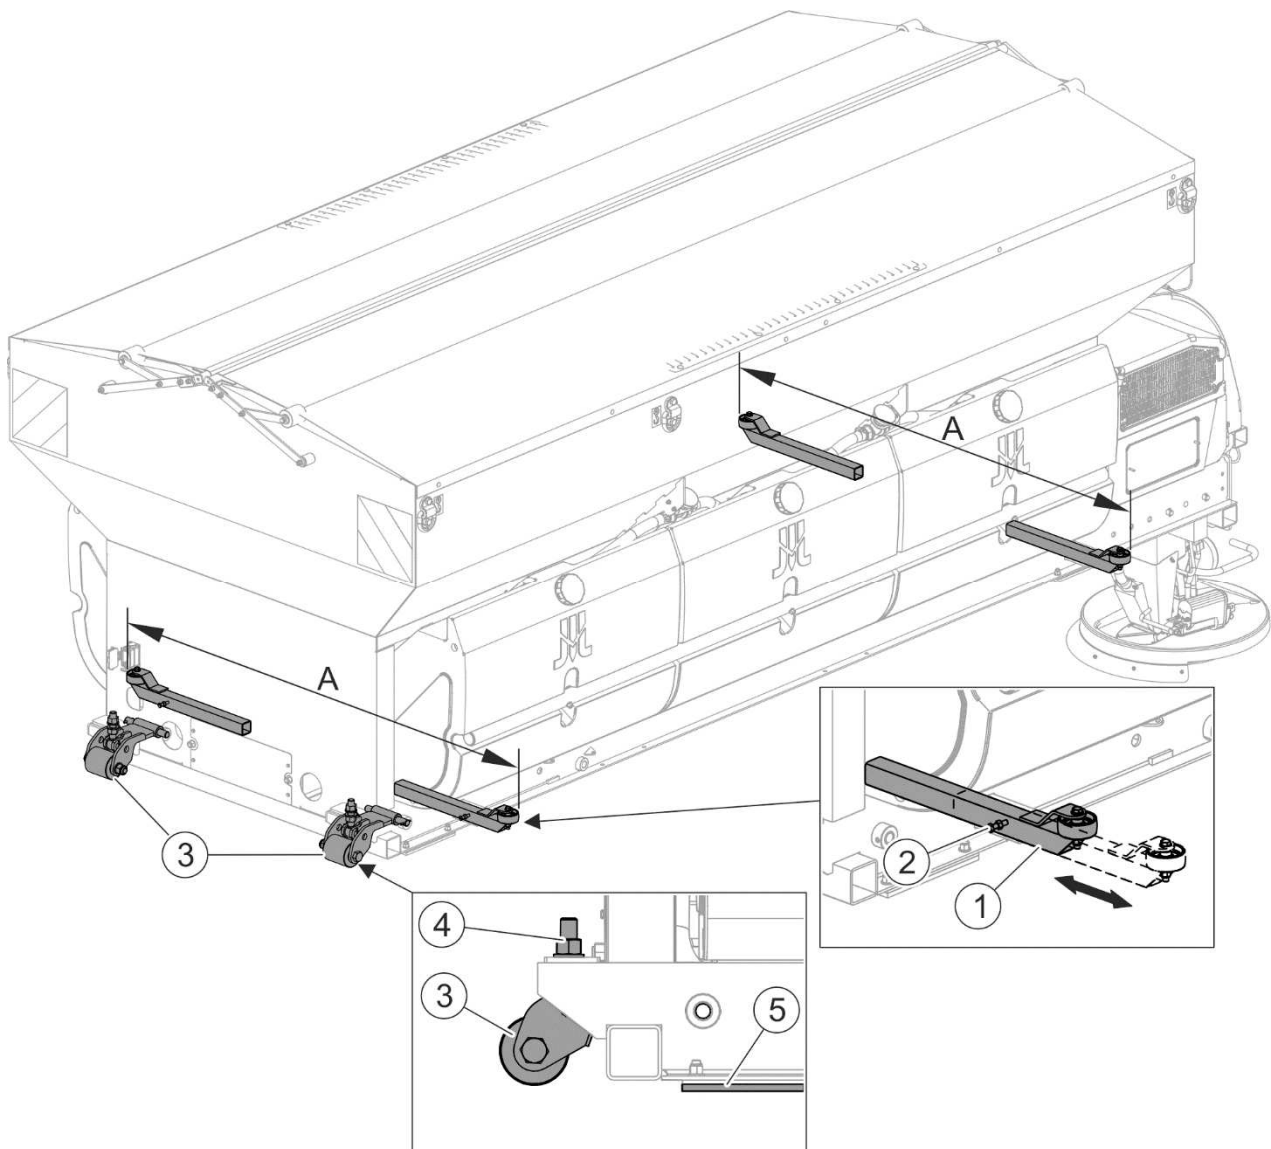
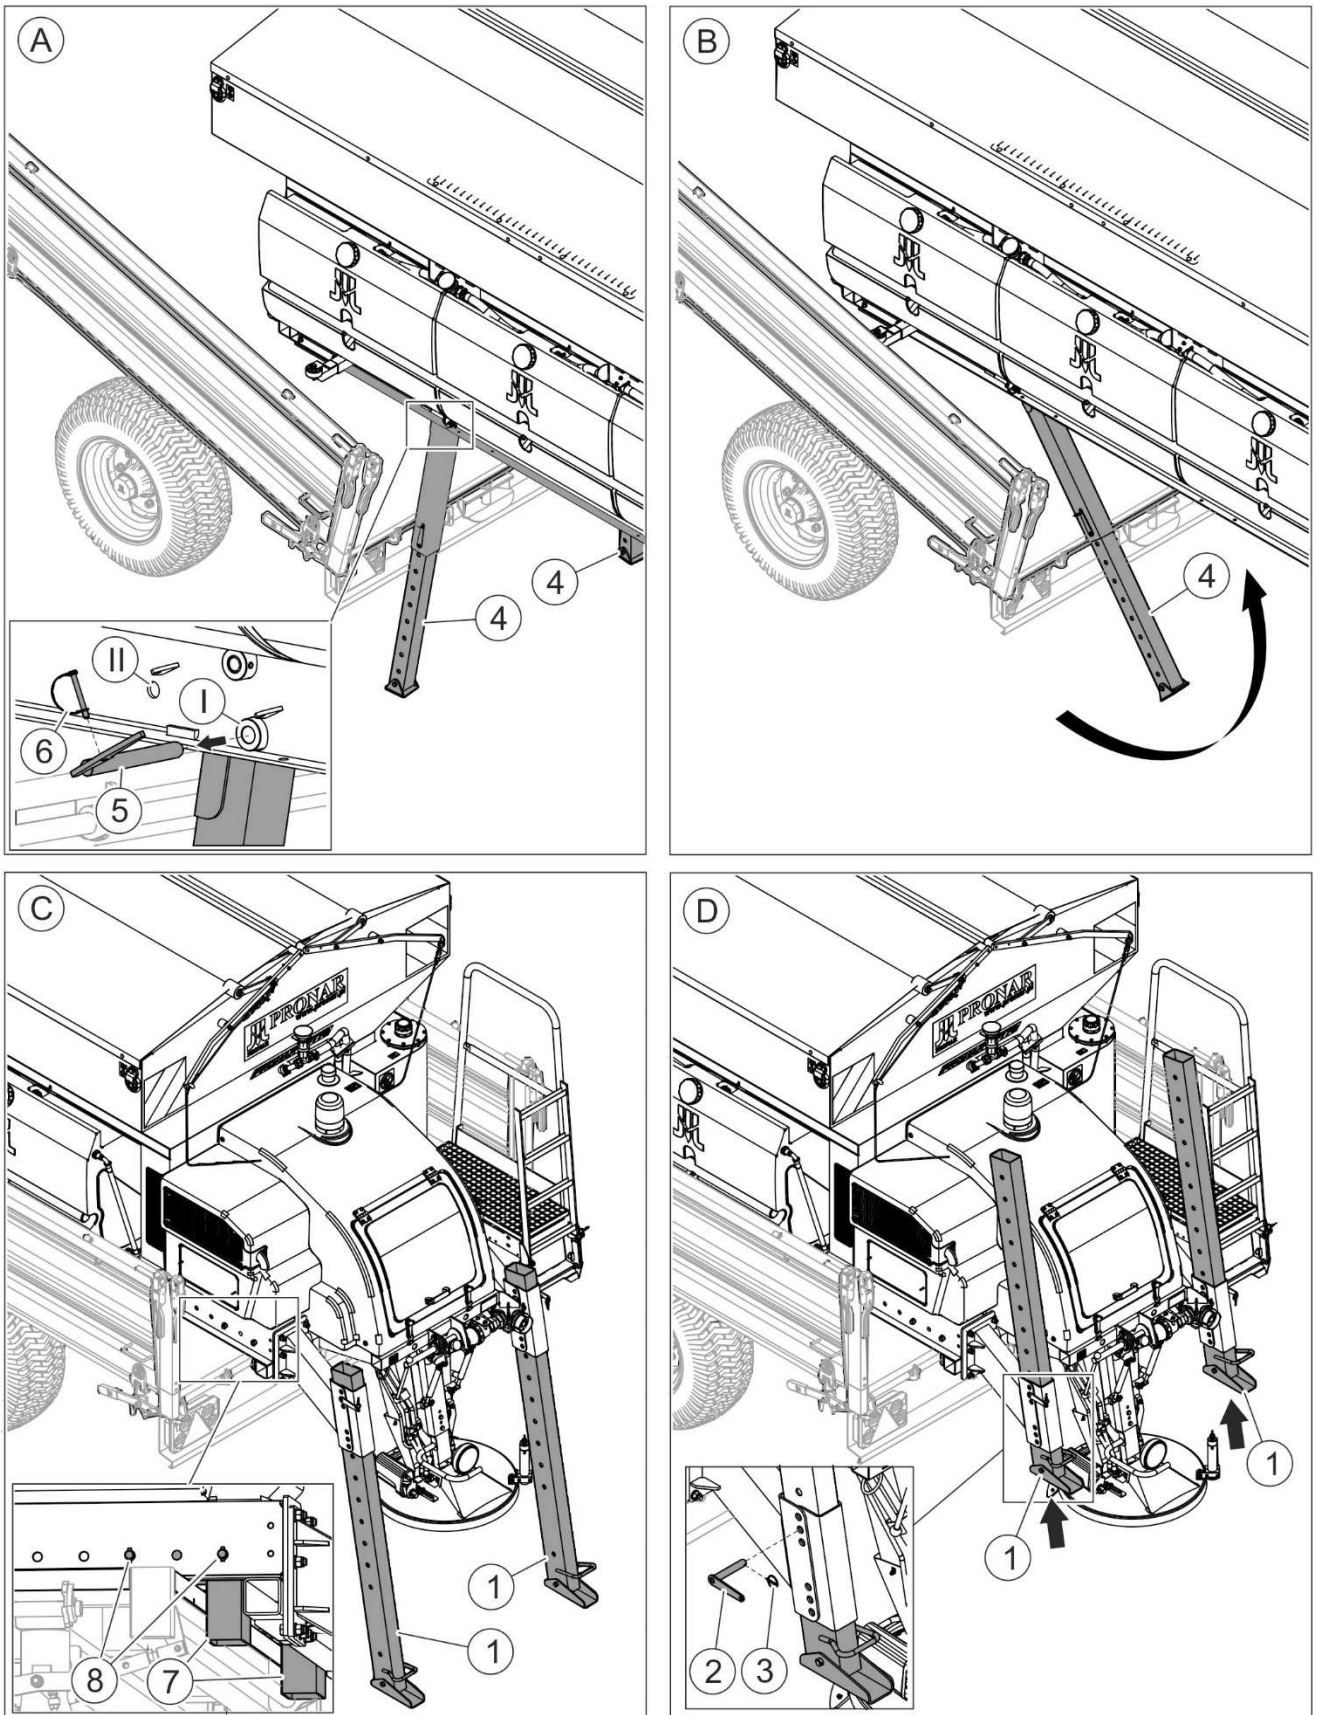

FIGURE 4.6 Guides
FIGURE 4.7 Machine loading stages
To set the sand spreader position on the carrying vehicle with side walls, use adjustable guides (1) with wheels (FIGURE 4.6) and stops (7) (FIGURE 4.7) installed from the bottom of the frame in the rear of the machine. Set the front and rear guides in such a manner as to ensure that dimension (A) is slightly smaller than the internal width of the carrying vehicle's load platform (FIGURE 4.6).
Guides (FIGURE 4.6) are used in carrying vehicles which have sufficiently strong side walls of the load platform.
The use of guides (FIGURE 4.6) depends on the method of fixing the machine on the load platform (see 4.3.2 SECURING THE MACHINE TO THE CARRYING VEHICLE'S LOAD PLATFORM).
- Unlock the front parking stands (4) on both sides of the machine by unlocking cotter pins (6) and removing securing pins (5). Relocate the pins from hole (I) in the spreader's frame to hole (II) (A - FIGURE 4.7).
- Raise the load platform to such a height (minimum 1,5°) as to ensure that rollers (3) (FIGURE 4.6) are supported on the platform floor (the rollers should be set in such a manner as not to touch the platform floor when the machine is loaded).
- While the carrying vehicle is being reversed with the load platform raised, the front parking stands (4) will be raised above the ground and folded automatically (B - FIGURE 4.7).
- Reverse the carrying vehicle until the stops (7) rest on the rear edge of the platform. The position of the stops should set earlier by means of locking pins (8), depending on the platform length (C - FIGURE 4.7).
- When the machine is set on the carrying vehicle's load platform, unlock cotter pins (3) and remove pins (2). Raise the rear parking stands (1) and secure them with pins (2) and cotter pins (3) (D - FIGURE 4.7).